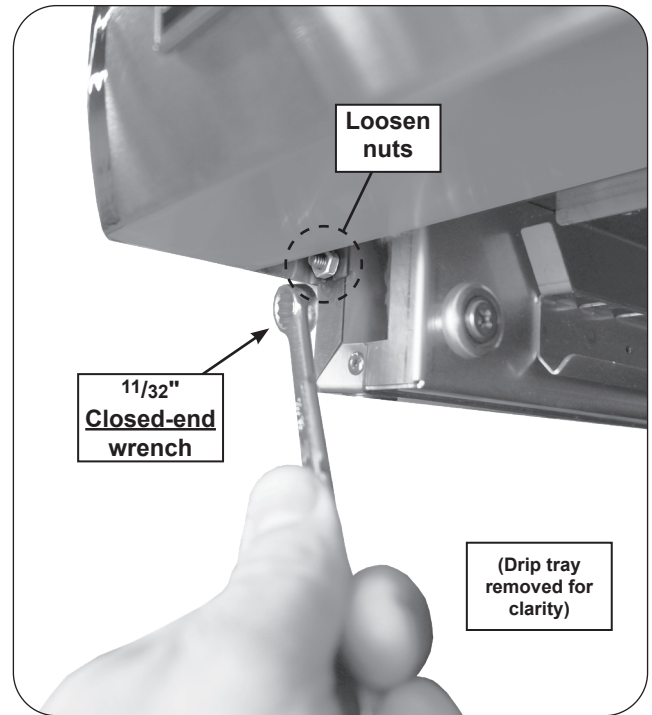

Fig. 47-1 Remove control panel
3. Loosen the nuts underneath the left and right sides of the control panel with a 11/32" wrench (see Fig. 47-1), then lift the panel until it is freed from the screws. Carefully rest the bottom of the control panel on the drip tray. The top of the control panel is supported by the internal chains.